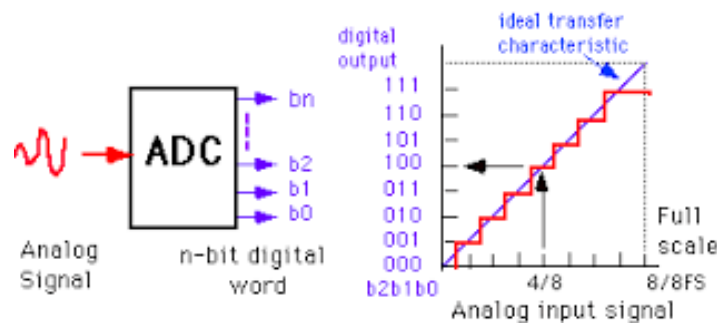

Fig. 1 ADC and its transfer characteristics
An ADC takes an analog input and generates a digital output as shown in Fig.1. The more bits the output word has the better the resolution. For a 3-bit ADC, the number of steps will be 8 while a 10-bit ADC will divide the analog signal up into 1024 ($=2^{10}$) steps.
The input-output relationship of an ADC is shown in Fig.1 for a 3-bit converter. Notice that when the analog input signal (on the horizontal axis) reaches a certain level, a new digital code will be generated (see vertical axis in Fig.1) which represents the digital output of the ADC as a function of the analog input. The maximum analog signal the ADC can accommodate is called the Full Scale (FS) as is shown in figure. As an example, if the analog input is equal to $4/8 \times FS$ (Full Scale), the output code for the example of figure will be (100). However, if one increases the magnitude of the input signal above $4.5/8 \times FS$, the new digital output code will be (101).